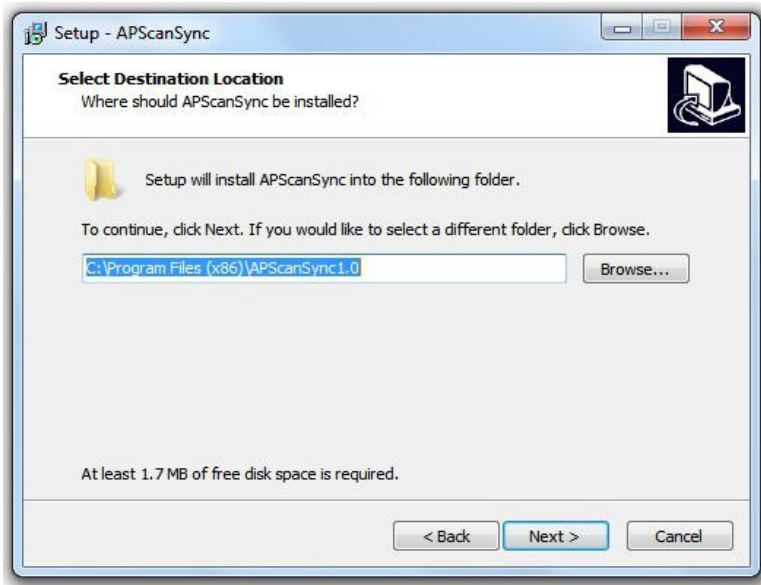

Figure 2-2 Step 2
3. The dialog box to specify a folder as the installation destination of the software is displayed (Figure 2-2). Change the folder if necessary. Then, click [Next].